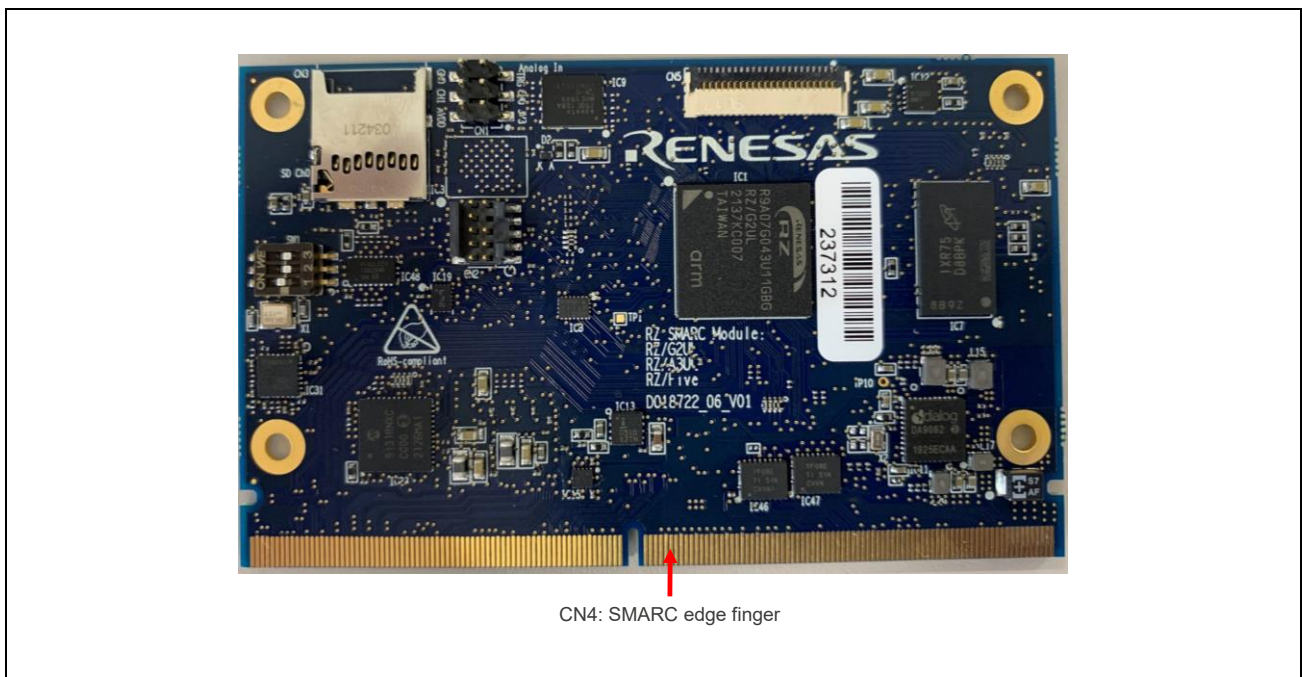

Figure 4.20 Layout of Carrier Board Connecting Pins
**Figure 4.20** illustrates the layout of the edge finger for mating with the SMARC edge connector on the RZ SMARC Carrier.